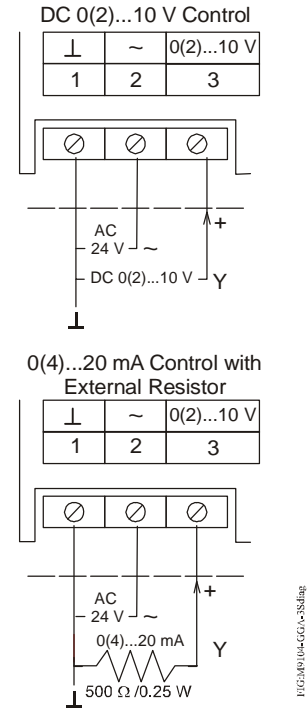

Figure 11: M9104-GGA-3S Control Wiring Diagram
The M9104-GGA Series Electric Non-Spring Return valve actuators require AC 24 V power and a DC 0(2) to 10 V or 0(4) to 20 mA controller input signal. These electric actuators include M3 screw terminals; see Figure 11 for proper wiring.